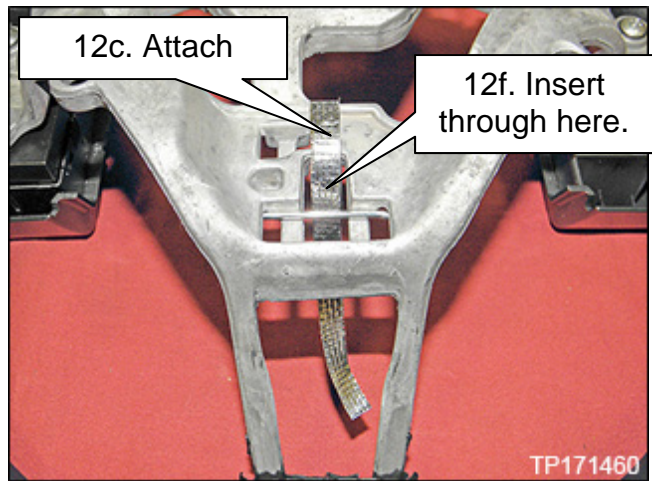

Figure 11
- c. Insert the aluminum tape through steering wheel hole as shown in Figure 11